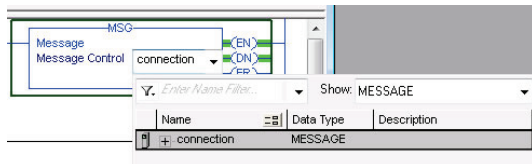

Figure 59: MSG Instruction Tag Assignment
- a) Edit the “Message Control” field on the MSG instruction to use the previously-created “connection” tag. Refer to Figure 59.